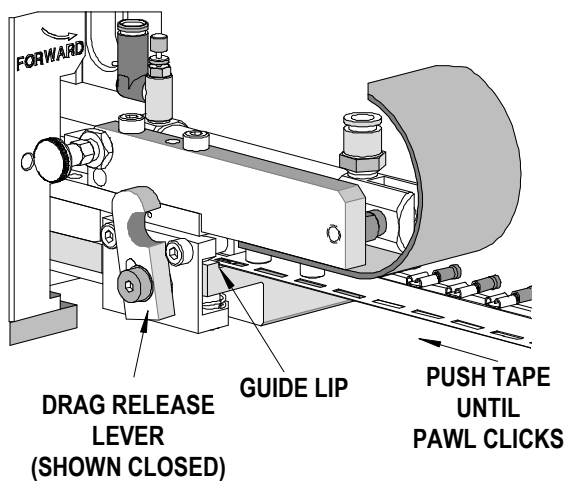

Figure 2-42
5. Align the back edge of the tape with the guide lip on the track and gently push the tape straight in. Finding the guide lip can be done by laying the tape on the front area of the track and slowly pushing it back until it touches the guide lip. See Figure 2-42.